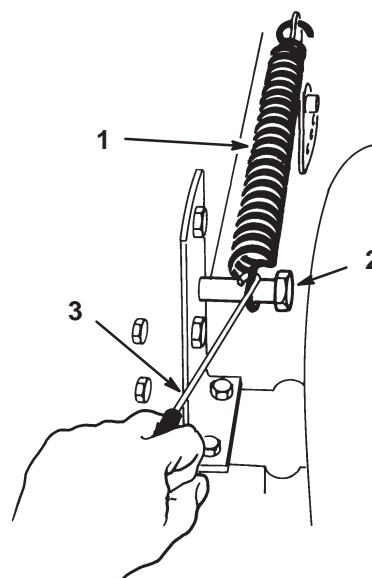

Figure 7
6. Remove the lift assist spring between the mower right side lift bracket and the retaining bolt (Fig. 7) Use the spring tool provided with the machine.